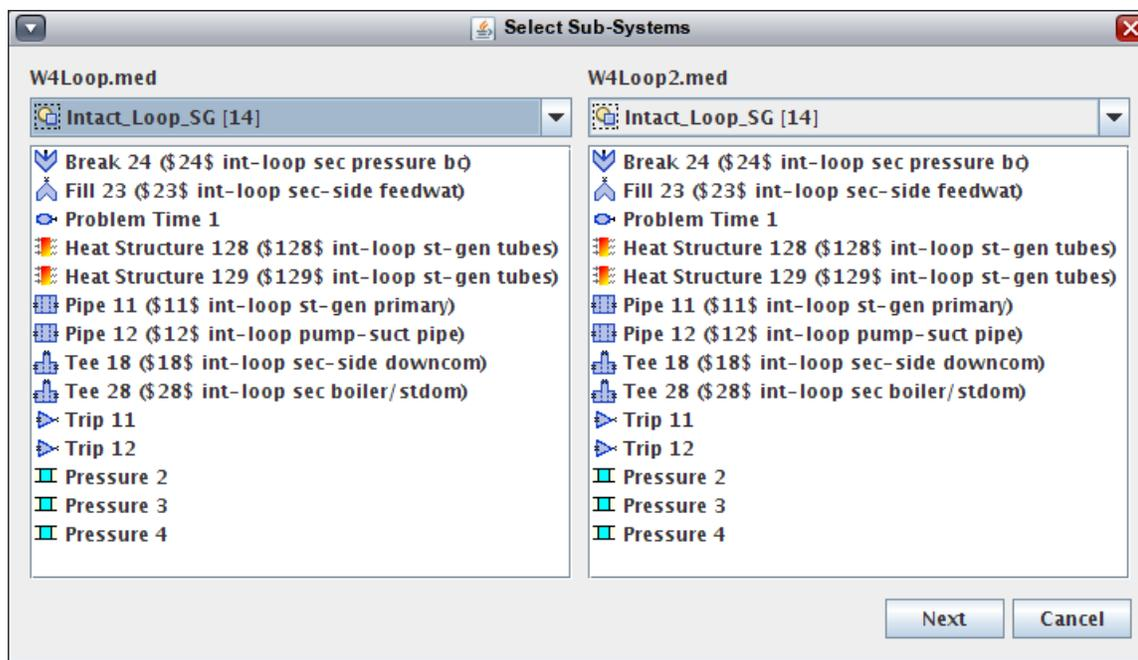

Figure 2.57. Select Sub-Systems Window
2. Select the MED (Model Editor Document) file containing the "Composite Component" model. This will then open the Select Sub-Systems dialog shown in Figure 2.57, "Select Sub-Systems Window".